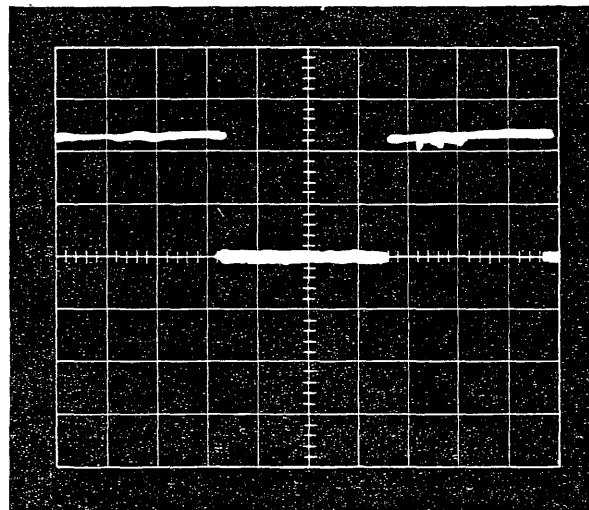

Figure 1-35. Machine Speed Check
30.3 Print Feedback Contacts (Figure 1-35 through 1-38).